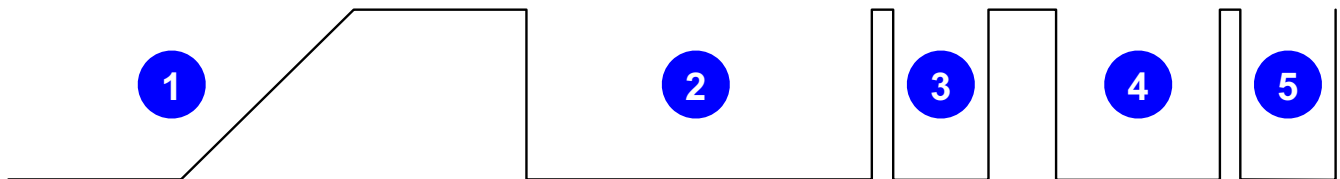

图 9-1. Power Up Best Practice
图 9-1 illustrates the best practice for dealing with initial power on ramps, shown as (1) in the figure, that may be long in duration. The host should issue a “hard” reset, (2), of > 5 ms, which resets the device and generate a presence delay and presence pulse, (3). After that, a “soft” reset of approximately 480 µs can be applied, (4), which also generates a high presence delay and low presence pulse, (5).